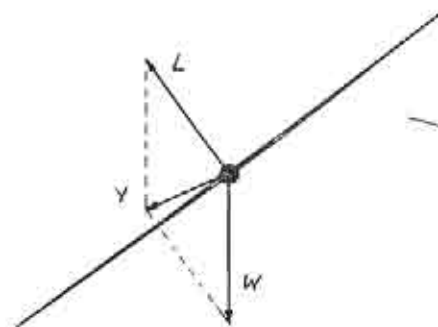
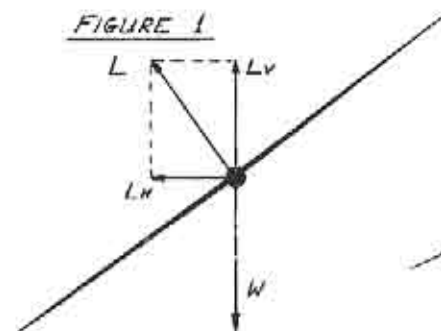

FIGURE 1
FIGURE 2
Let's start with a simple drawing of a banked plane (Figure 1). It shows two forces (vectors) acting on the plane, lift (L) and gravity (W). When they are added together - keep in mind it's vector addition not checkbook addition - the result is the force "Y". As you can see, it's pushing the plane to the side and down relative to the horizon, but slightly "up" relative to the the plane.
Let's change the picture we drew earlier and look at it from a different perspective (Figure 2). Notice lift and weight are still there. But instead of adding them as we did
You realize of course that Figure 1 and Figure 2 both tell essentially the same story, just in different ways. Figure 1 is useful because the direction of "Y" highlights the angle of attack change. That's not as readily apparent from the second drawing. But the approach used in Figure 2 can show some other interesting effects.